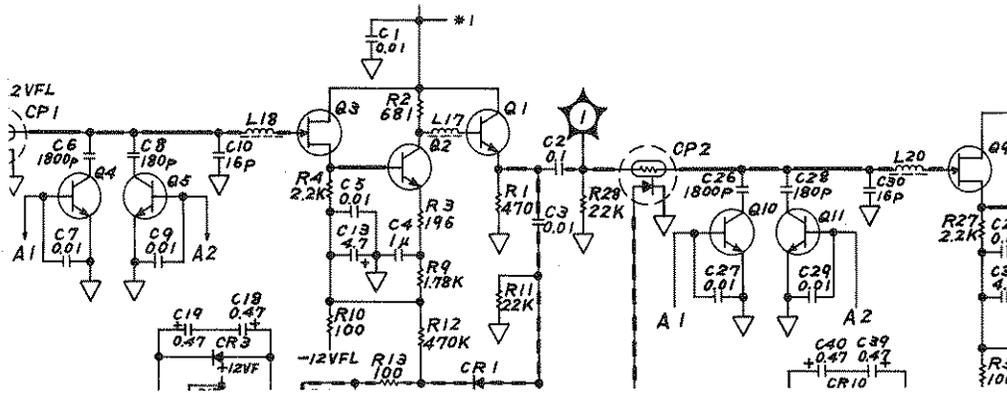

Figure 8-58 (B). A6 Schematic Diagram.
Page 8-72, Figure 8-58 (B). A6 Schematic Diagram (Sheet 2 of 2):